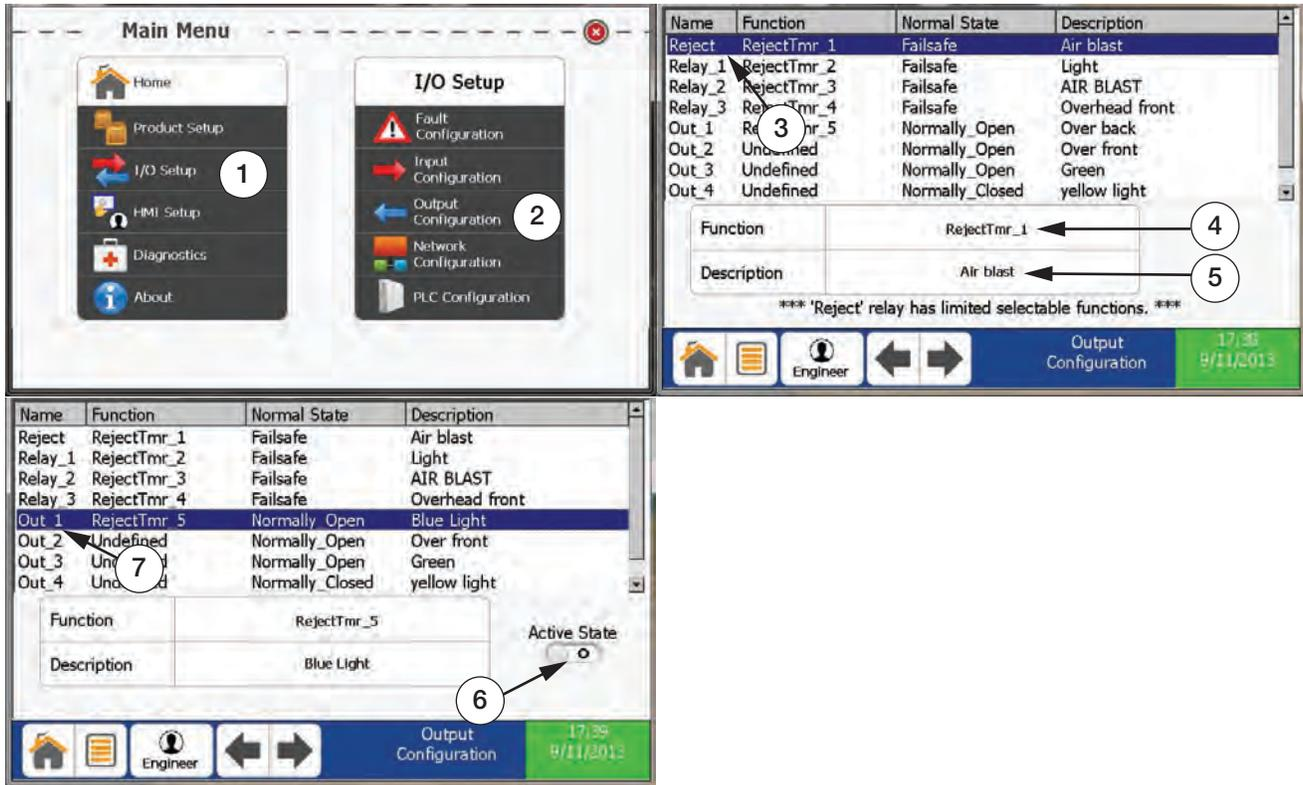

Figure 4-13. Output Device Setup
Note *Reject and Relay 1-3 are failsafe wired. Out 1-5 are solid state relays and are not failsafe (see item 7 in Figure 4-13).*